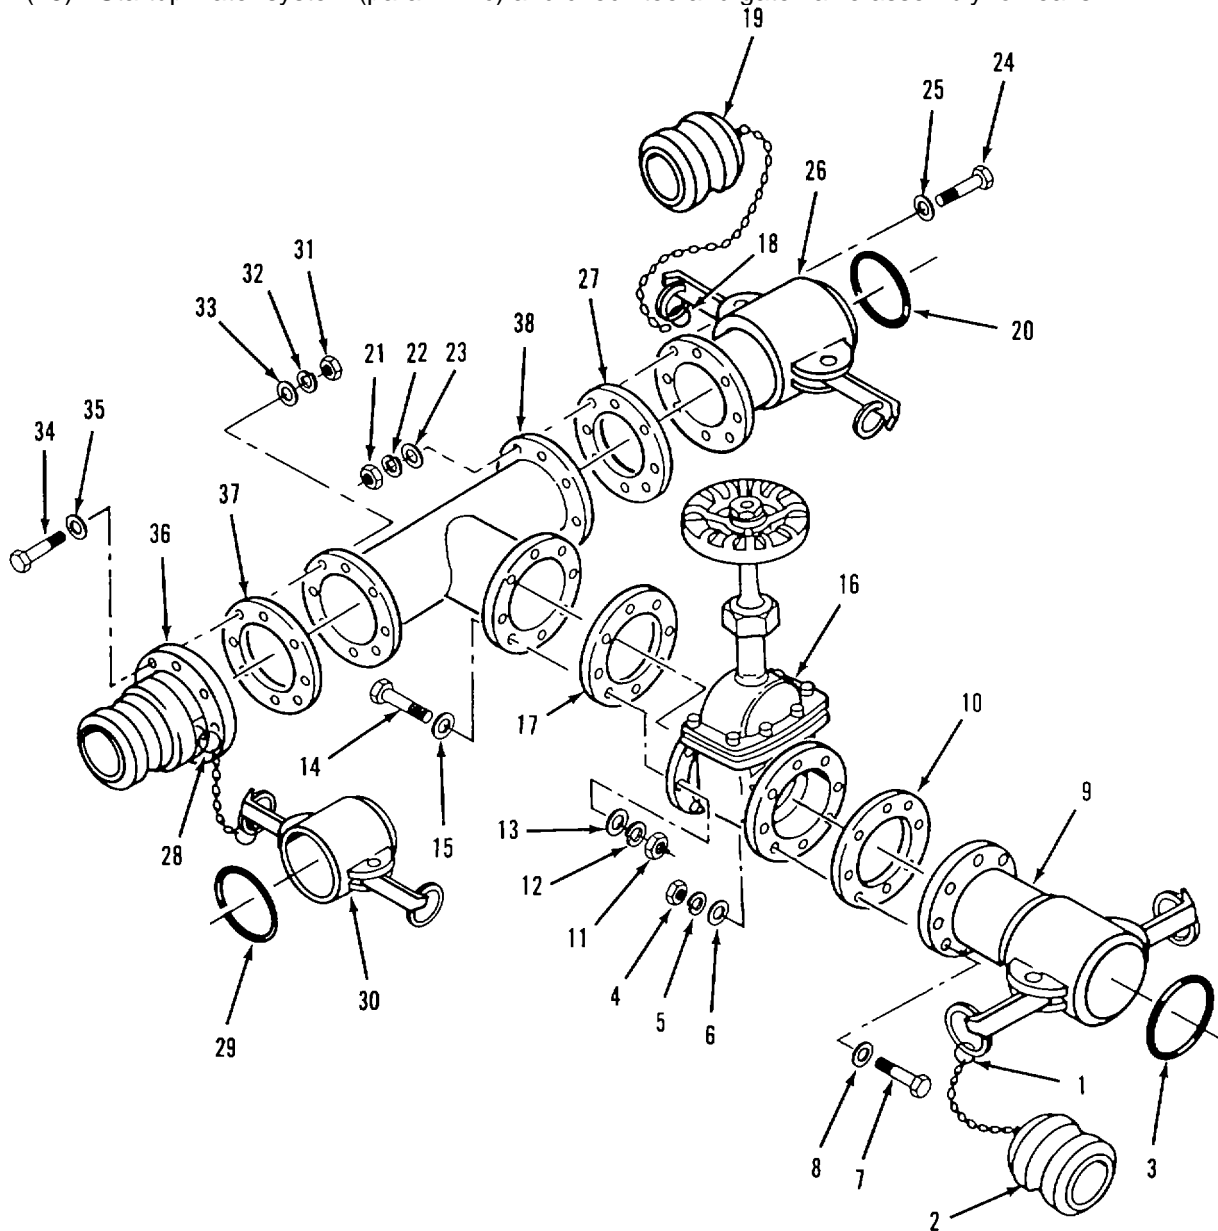

Figure 4-37. Tee and Gate Valve Assembly (9114-Y6) Assembly.
- (1) Refer to para 4-31 to repair gate valve.
- (2) Replace defective components. Do not reuse sealing components.
e. Assembly. Refer to figure 4-37.
- (1) Position gasket (37) and male coupling (36) on tee (38).
- (2) Install eight flat washers (35), screws (34), flat washers (33), lockwashers (32) and nuts (31).